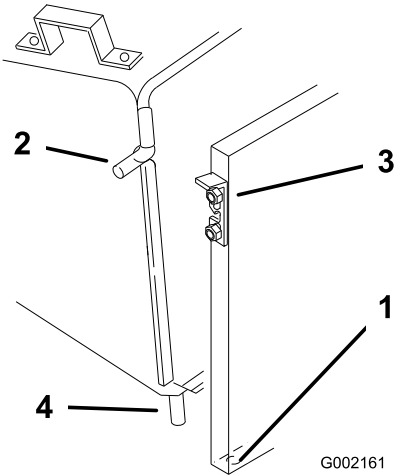

Рисунок 13
- 6. Insert the lower pins of the bagger frame into the holes on the back plate (Рисунок 13).
- 7. Lift the latches and slide the frame side pins into them (Рисунок 13).
4. Insert the lower pins of the bagger frame into the holes in the back plate (Рисунок 13).
5. Lift the latches and slide the frame side pins into them (Рисунок 13).
5. Insert the lower pins of the bagger frame into the holes in the back plate (Рисунок 13).
6. Lift the latches and slide the frame side pins into them (Рисунок 13).